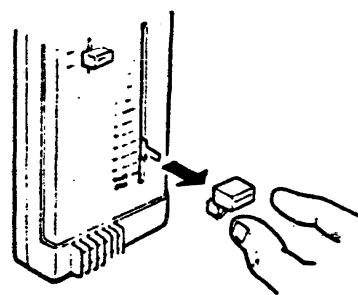

Fig. 39
- a) Pull off the thermostat knob. Fig. 39.